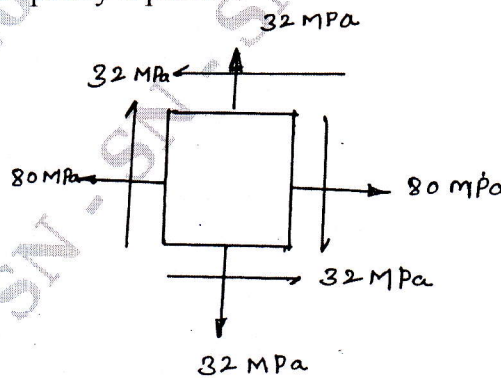

Fig Q3(b)
- b. At a certain point in a strained material the values of normal stresses across two planes at right angles to each other are 80 MPa and 32 MPa, both tensile and there is a shear stress of 32MPa clock wise on the plane carrying 80MPa stresses across the planes as shown in Fig Q3(b). Determine: